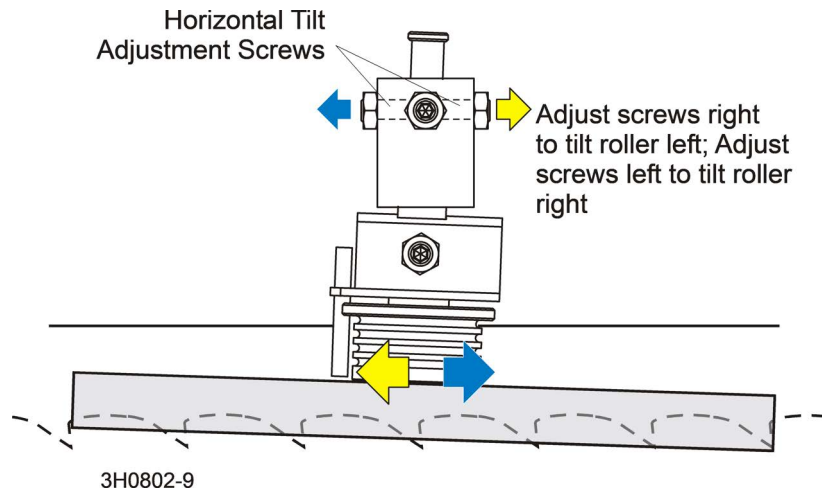

FIG. 5-7
5. Loosen the jam nuts on the horizontal tilt adjustment screws. See FIG. 5-7.